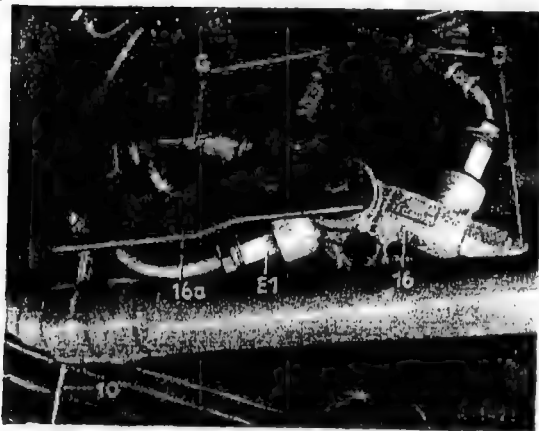

Fig. 40-5/1
3. Detach the connecting rods (10) on the two leveling valves of the front axle and on the leveling valve of the rear axle. To do this, unscrew the hexagon nut on the lower ball joints (Figs. 40-5/1 and 40-5/2).